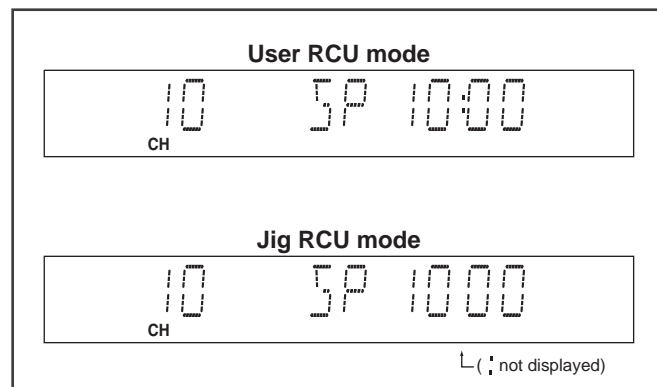

Fig.2-3a User/Jig RCU mode
- (1) Turn on the power.
- (2) Press the following remote keys continuously within 2 seconds " SET UP MENU " → " 2 " → " 8 " → " OK ". When the VCR is set to the Jig RCU mode, the symbols (" : ") in the time display of the FDP are turned off. (Refer to Fig.2-3a)